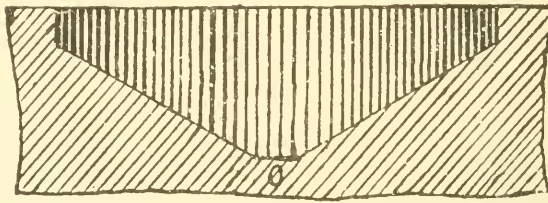

Fig. 91—Showing another Improper Way of Grinding.
*keep the point thin*, so that it shall not cut a flat place at the bottom of the cone, as shown in Fig. 91 at *O*, which increases the force necessary to feed the drill.